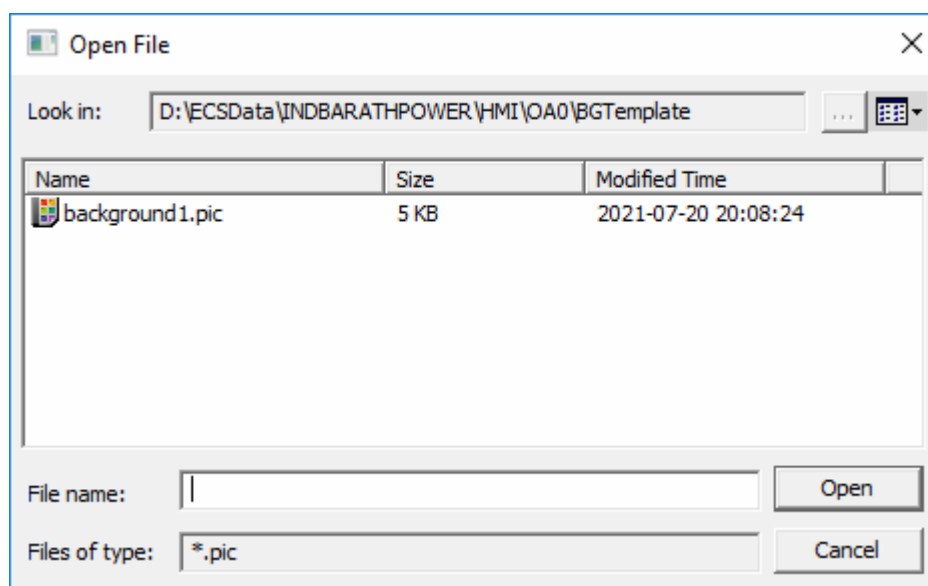

Figure 3-17 Dialog box “Apply Background Template”
- Background Template: include two commands of “Apply Background Template” and “Remove Background Template”. The dialog box shown in Figure 3-17 will pop up when clicking “Apply Background Template”, and the default Search Range is the BG Template folder which can't be modified.